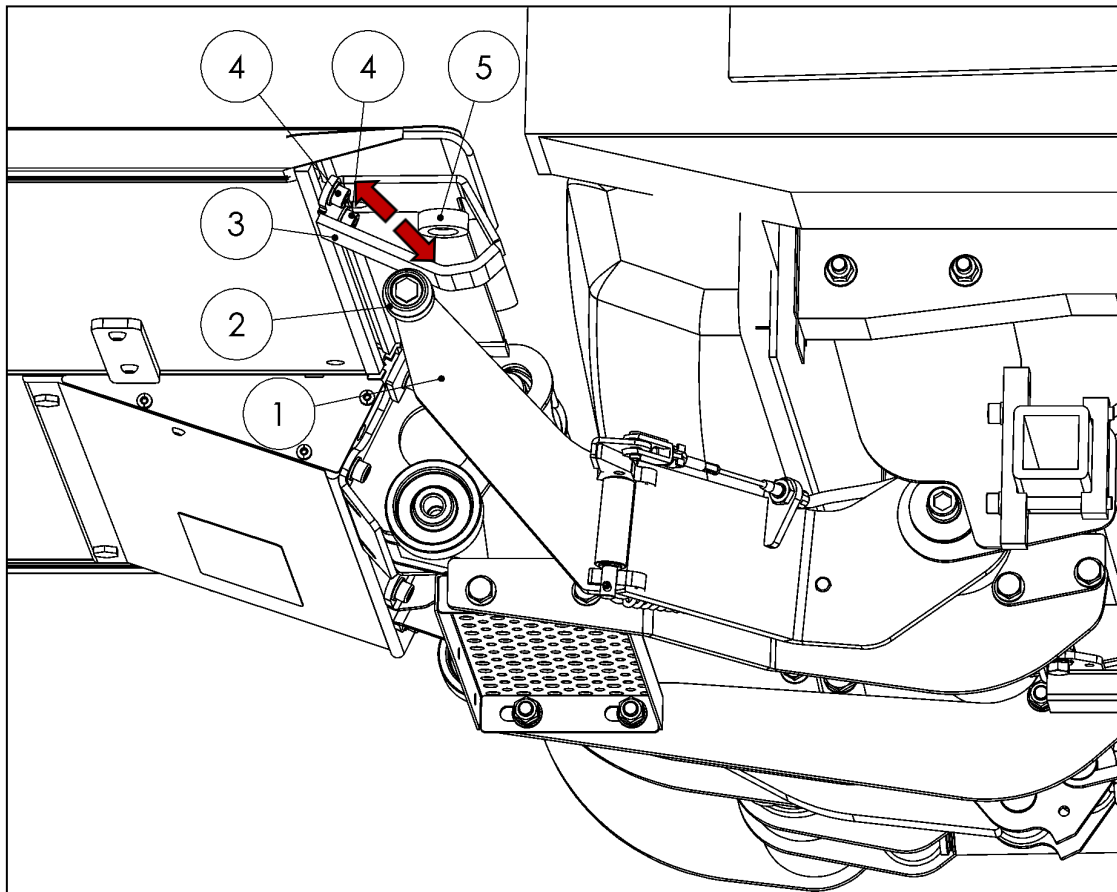

Figure 80
IMPORTANT: The roller (1) on the support arm (2) must remain against the stop (3) throughout the entire lifting process. If necessary, loosen the stop (3) and shift it slightly by loosening 2 cheese-head screws (4). At the same time, the stop (3) must not be shifted too far. When the platform is folded over, the plastic spacer (5) must hold the platform in place (see Fig. 80).